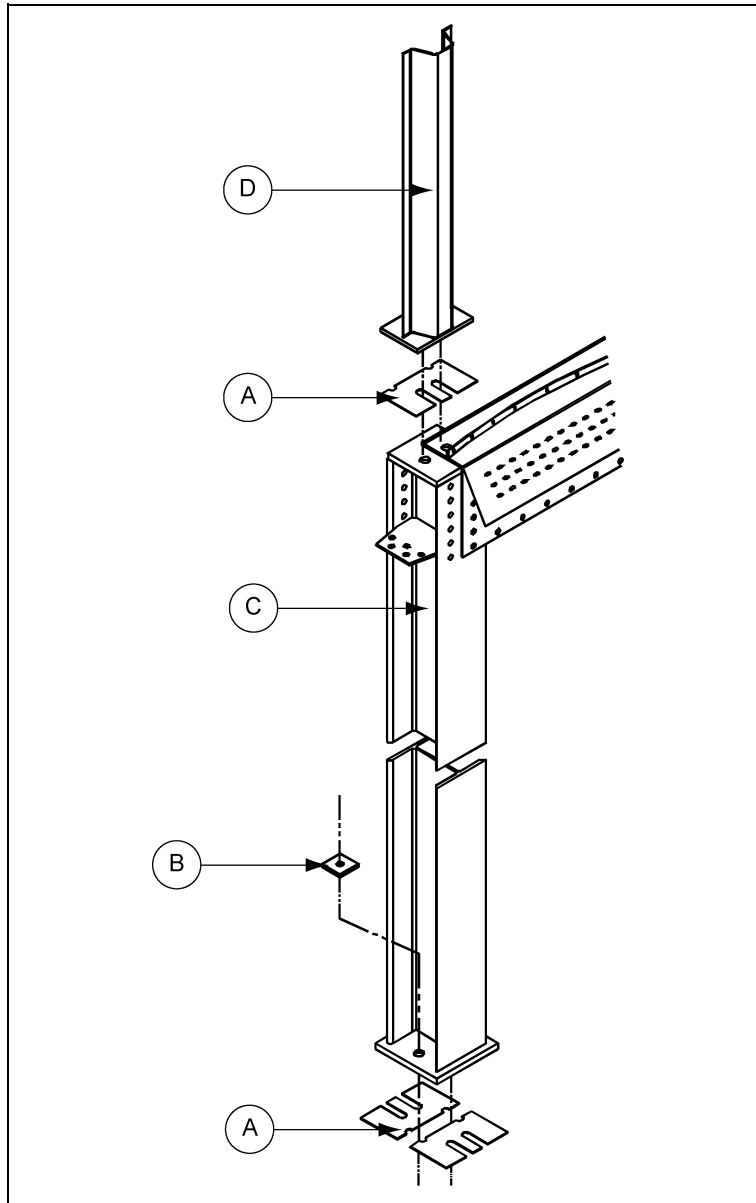

Figure 10P
The shim plates (A) should be used where necessary to ensure the base plates are firmly supported by the columns. Use the shim plates (A) to fill any gaps between the base plate and the compression weldment. Refer to Figure 10P. Attach the base stiffener to the stiffener column and compression weldment with 5/8" x 2-3/4" bolts (two (2) per stiffener). Place a washer on the top side of the stiffener base plate.